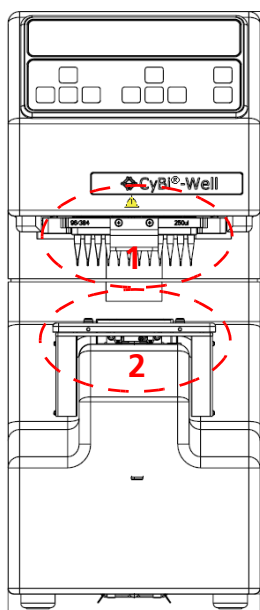

Fig. 2: Hazardous area of pipetting unit
- Tightening device for the magazine plate (→ see fig. 2)
- Lifter (→ see fig. 2)